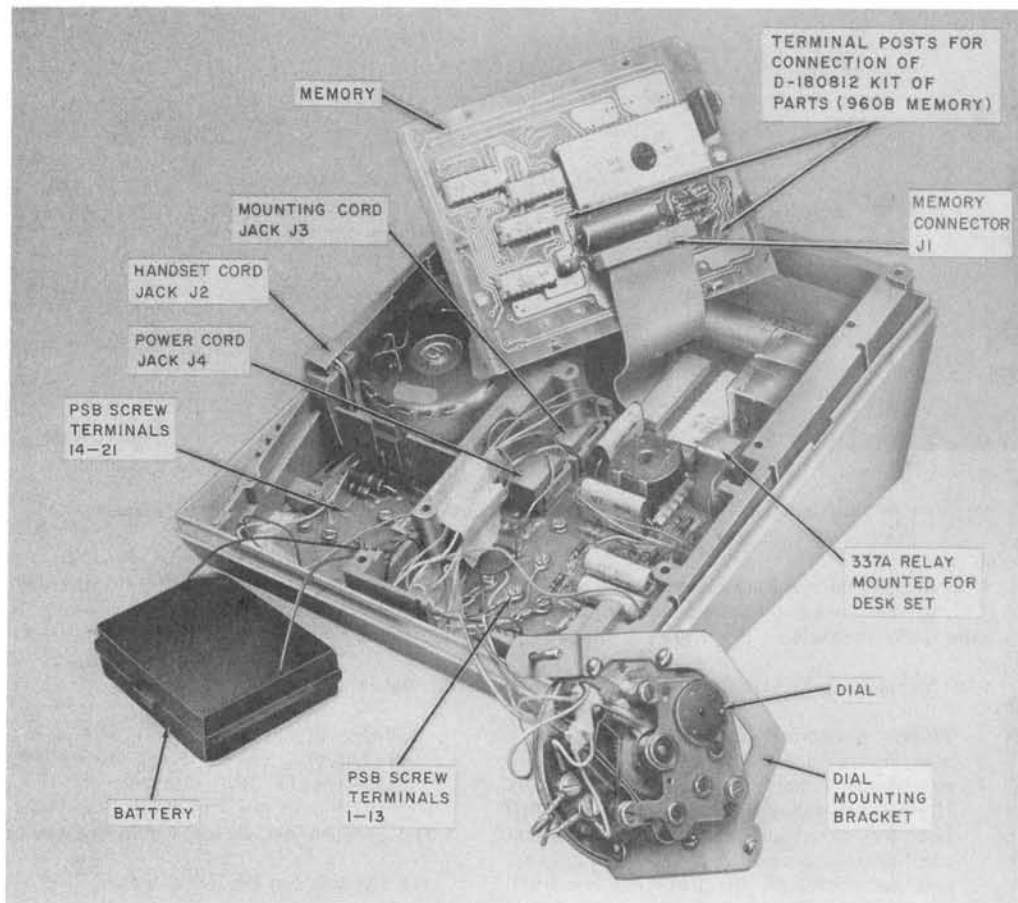

Fig. 6—960A01M Chassis and Lower Housing With Dial, Memory, and Battery Laid Aside, and Shield Removed
- (8) Rotate the right edge of the memory upward (Fig. 6) and connect the three leads to the terminal posts on the 960B memory per Table D.
- (5) Rotate the right edge of the Memory upward.
- (6) Disengage the connector at the Memory (Fig. 6) by pulling it perpendicular to the circuit board.
- (7) Replace the Memory by engaging the connector. The connector is keyed, one position is filled and should fit over the vacant position in the row of pins. The cable should not be twisted.
- (8) Tighten the four captive screws.
- (9) Replace the shield and faceplate.
- (10) Test per paragraph 3.12.
- (11) Place the old Memory in shipping container of the new Memory (carton 900314535), affix a defective label and return to the repair location.